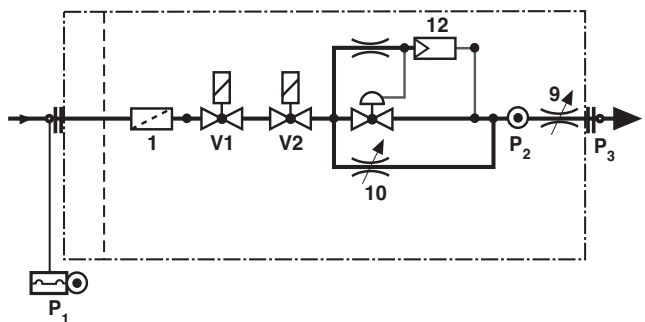

Fig. 9
- A. measuring nozzle P2 (Fig. 9) before valve D
- C. startup valve (no. 10 in Fig. 9)
- D. maximum flow rate valve(no. 9 in Fig. 9)